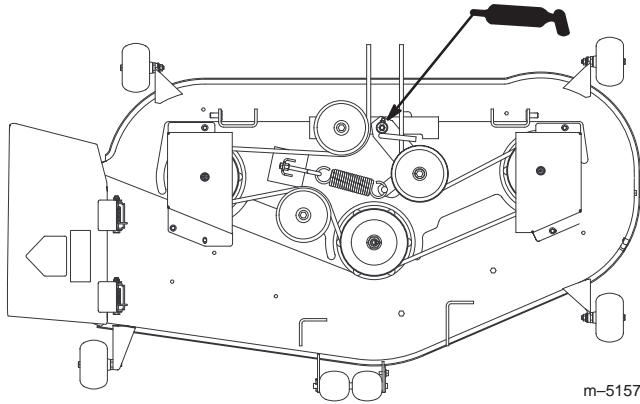

Figure 31
3. Grease the idler pulley pivot (Fig. 31).